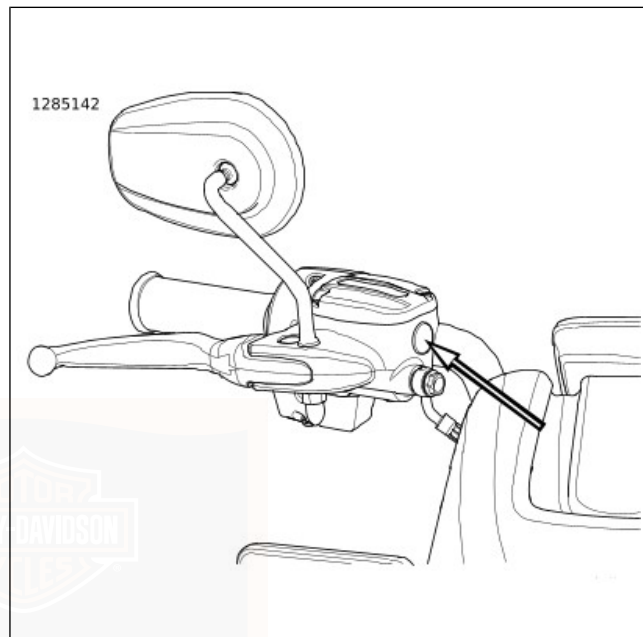

Figure 57. Front Master Cylinder Reservoir Sight Glass
2. **Front:** See Figure 57. Check level in front reservoir sight glass. Fluid level must be at or above the minimum mark on glass.